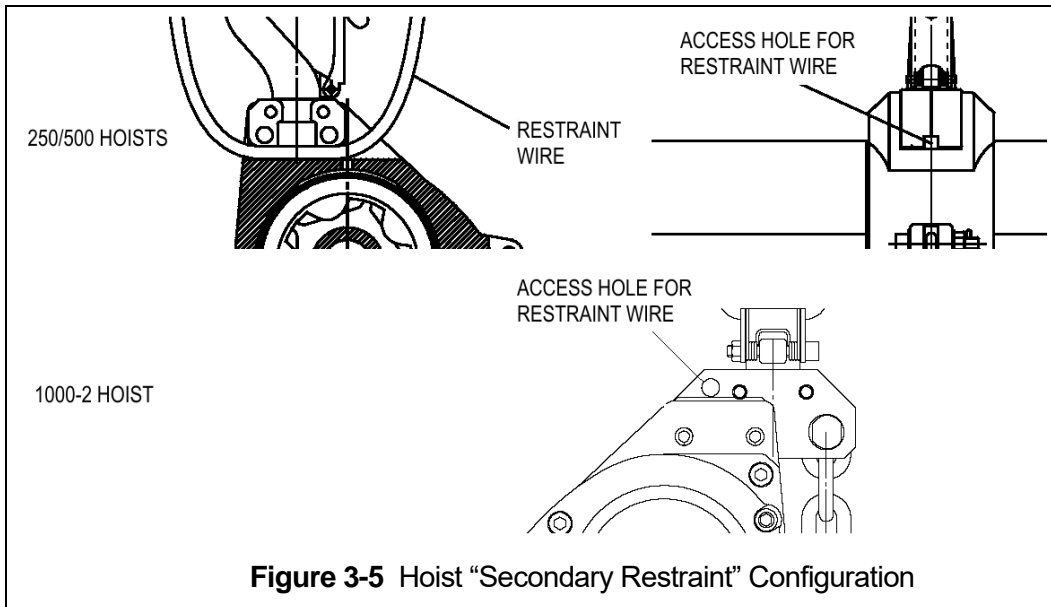

Figure 3-5 Hoist "Secondary Restraint" Configuration
- 3.8.2 For applications requiring a "Secondary Restraint" a "hole" has been provided in the hoist Top Hook Yoke. Reference Figure 3-5.